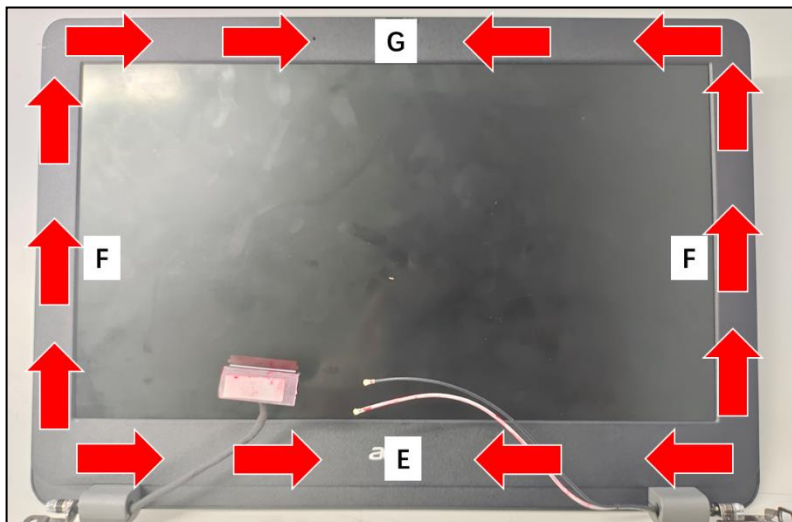

Figure 3-81. Replacing the LCD Panel
6. Start pressing along the bottom side (C) of the LCD panel to secure the latches to the LCD cover (Figure 3-81).
7. Continue pressing upward along the left and right sides (D) of the LCD panel to engage the latches (Figure 3-81).
8. Finally, press along the upper side (E) of the LCD panel to fully secure the panel to the LCD cover (Figure 3-81).
When pressing on the latches, make sure to follow the direction of the arrows (Figure 3-81).